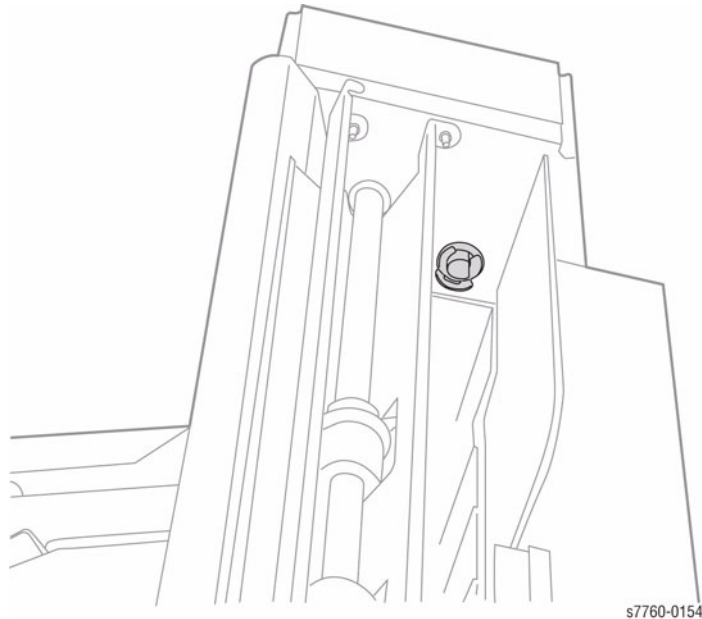

Figure 1 Removing KL-Clip
2. Remove the KL-clip (Figure 1).